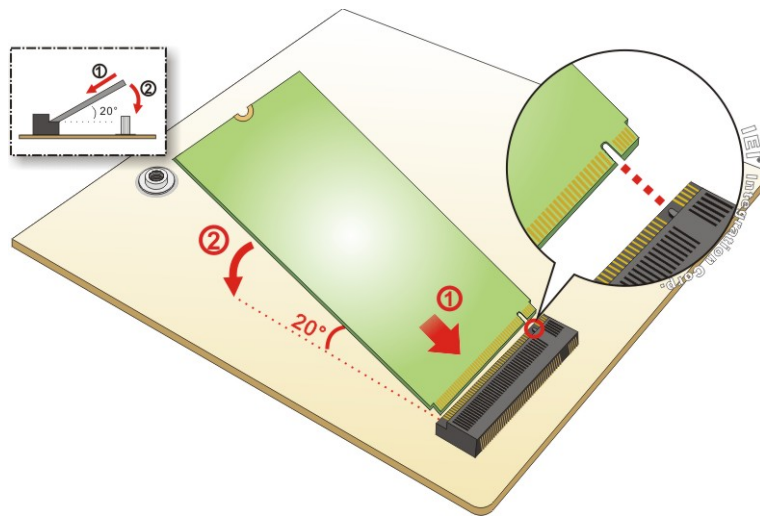

Figure 3-10: Inserting the M.2 Module into the Slot at an Angle
Step 4: Line up the notch on the module with the notch on the slot. Slide the M.2 module into the socket at an angle of about 20° (**Figure 3-10**).